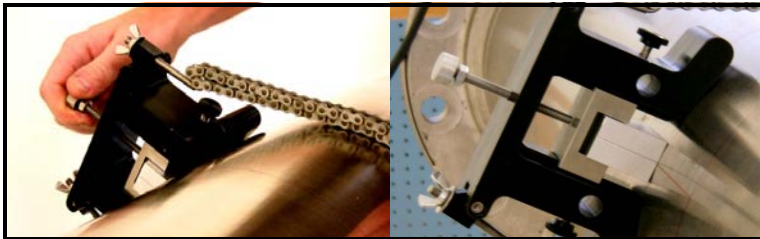

Figure 3-18: Positioning the CFG-PI Holder Bracket
4. Install the transducer dummy block to verify the circumferential and axial location. Center the indicator line on the block to line up with the scribed mark (see Figure 3-18 below).